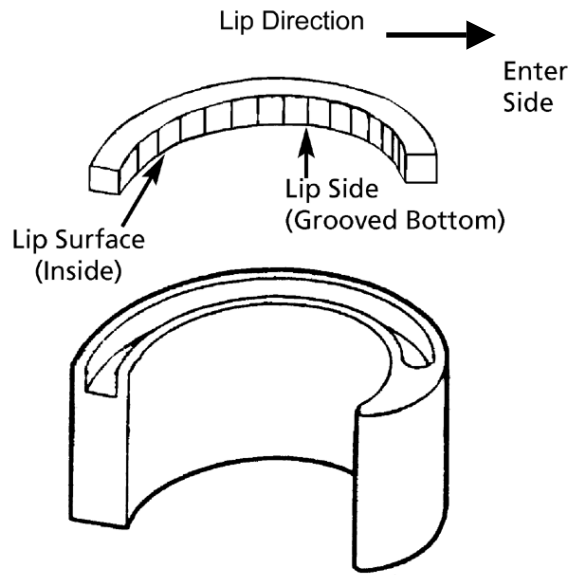

Figure 6. Tip Seal Orientation.
- i. Insert the tip seal so that the lip of the tip seal is at the bottom of the seal groove and inner side of involute, and the direction of the lip faces the center of the involute (curving spiral). Refer to Figure 6. This is to be done for both the fixed scroll and orbit scroll sets. Use caution not to tear or distort the seal lip.
- j. Insert the new high pressure tip seal from the center section for the orbit scroll so that there will be no clearance at the tip (start) section (see Figures 6 and 7).